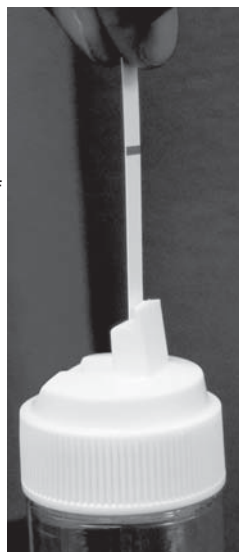

Figure 1
7. Remove one Arsenic test strip from its bottle (immediately recap the test strip bottle). Insert the test strip into the turret as illustrated in Figure 1:
- a) Position the strip so that the test pad and red line are facing the back of the white cap (see Figure 1).